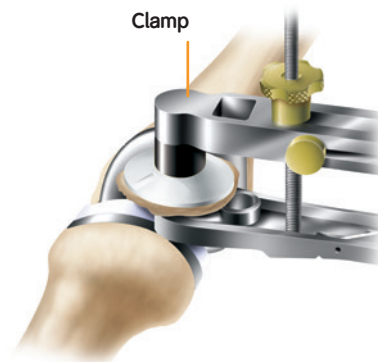

Figure 85
- 3 Place the patellar implant onto the patella and clamp into the bone (Figure 85). Remove excess cement.